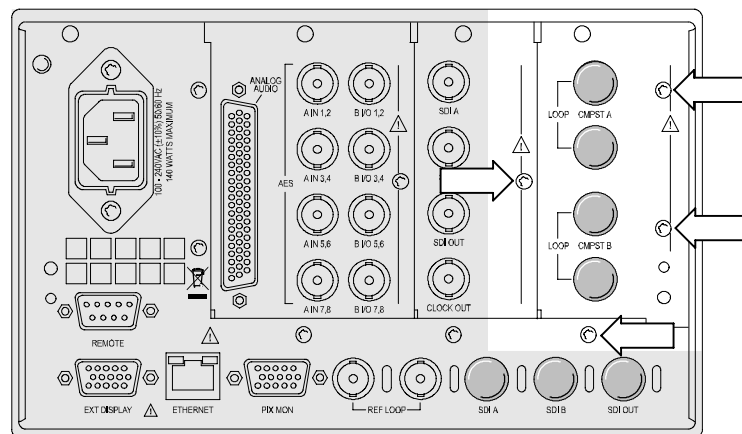

Figure 9: Removing the Option CPS rear-panel screws
1. Remove the four screws from the Option CPS or CPSL rear panel (see Figure 9), and then remove the panel. Save the screws for reinstallation.